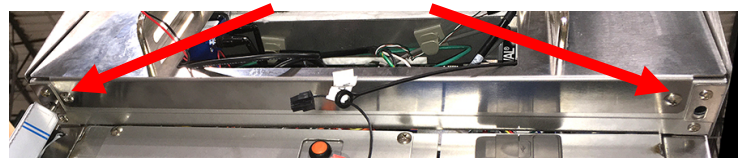

Figure 10
12. Remove the bezel by removing the two screws on the bottom of the bezel, starting with the screw closest to the door first, so the bezel can rest on the door (see Figure 10).